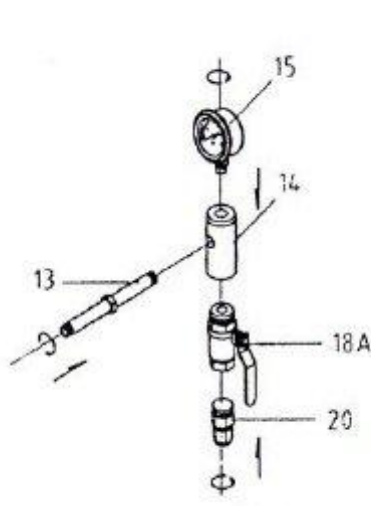

Figure 1
1. First, refer to Figure 1. Installing the Inlet Manifold (14). Install the pressure gauge (15) at the end of the inlet hose and turn it so that it is clearly visible at the top of the tank. Next, install the throttle valve (18-A) at the bottom of the inlet hose. The next step is to install the connector (20) to the throttle valve. Then install the connecting pipe (13) on the side of the hose.